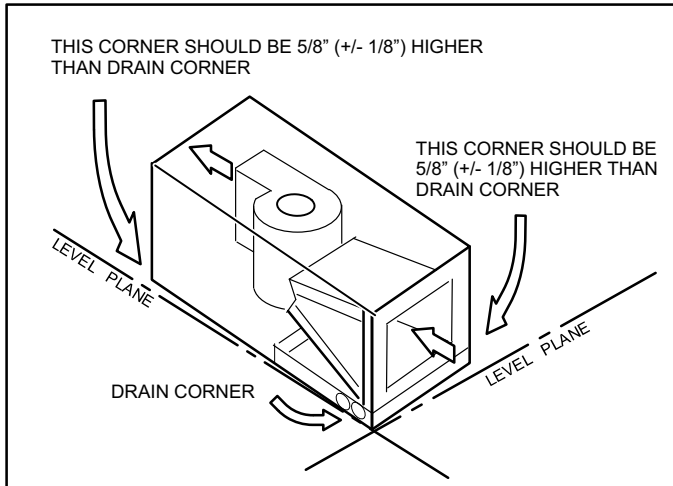

Figure 31. Sloping the Drain
3. Set unit so that it is sloped toward the drain pan end of the unit (see figure 31).
Make sure the unit is sloped (similar to the slope shown in figure 31) (horizontal or upflow) so that the drain pan will empty completely without water standing in the pan.